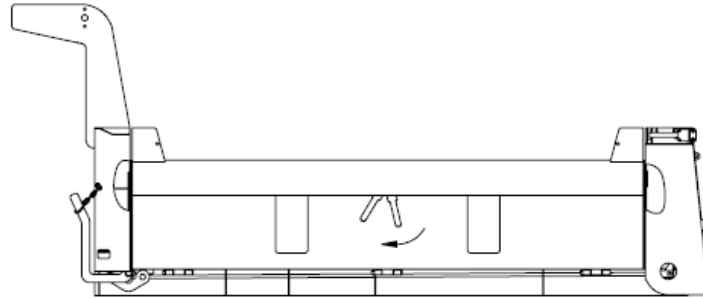

FIGURE 12
1. Rotate side door handle forward to retract linkage pins from front and rear corner posts while keeping the side door secure in the closed position (Figure 12).